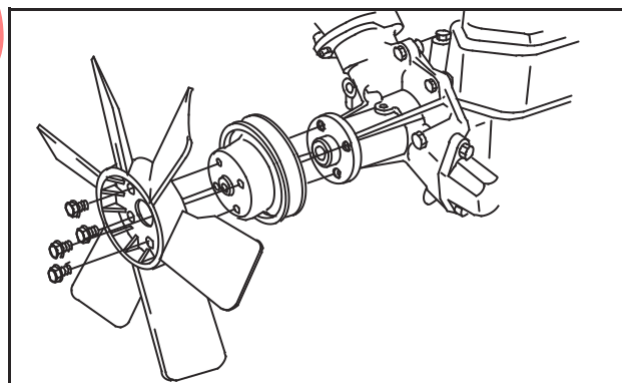

Fig. 40 – Install Water Pump Pulley And Fan
2. Install water pump pulley, Fig. 40.